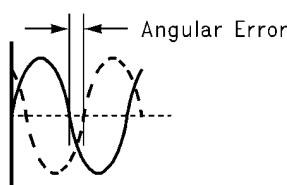

**FIGURE 2. Expected Input Signal Range**
*Figure 2* shows the expected input signal range.
Where dev is the angular difference between the two signals having a 180° relative phase relationship to each other (see *Figure 2*). Drive the analog inputs with a source impedance less than 100Ω.